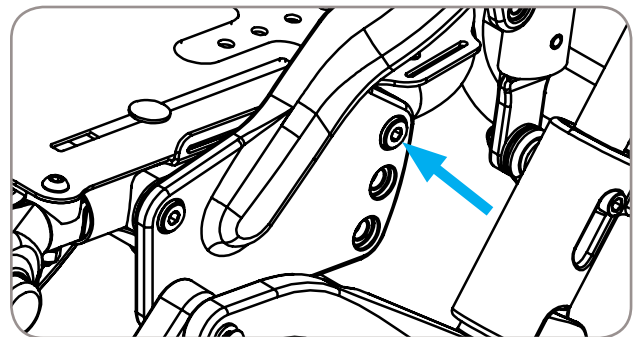

Figure 7
2. Remove bolt and nut from left and right sides, reference Figure 7. 5mm hex wrench and 13mm wrench required.